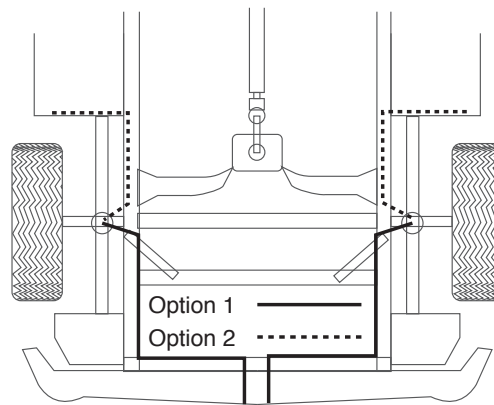

fig. 9
6. Route the air line along the frame to the air fitting on the air spring (fig. 9). Keep AT LEAST 6" of clearance between the air line and heat sources, such as the exhaust pipes, muffler, or catalytic converter. Avoid sharp bends and edges. Use the plastic tie straps to secure the air line to fixed, non-moving points along the chassis. Be sure that the tie straps are tight, but do not pinch the air line. Leave at least 2" of slack to allow for any movement that might pull on the air line.